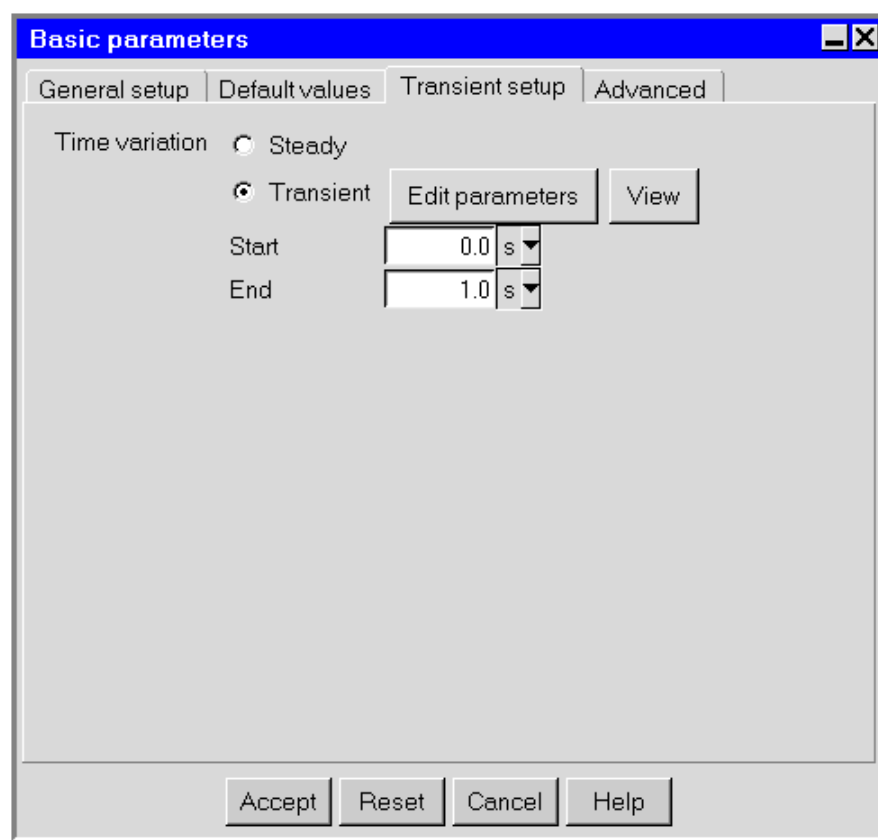

Figure 20.1.1: The Basic parameters Panel (Transient setup Tab)
1. Enable the **Transient** option in the **Transient setup** tab of the **Basic parameters** panel (Figure 20.1.1). To open the **Basic parameters** panel, double-click on the **Basic parameters** item under the **Problem setup** node in the **Model manager** window.
The **Phase** is the time between $t = 0$ and the first peak of the square wave. The **On time** is the time that the square wave is at its peak value. The **Off time** is the time between peak values of the square wave. The **Off value** is the value of the square waves between the peaks of the wave. The peak value is the specified value of the transient quantity (e.g., 293 for Temperature in Figure 20.1.1).